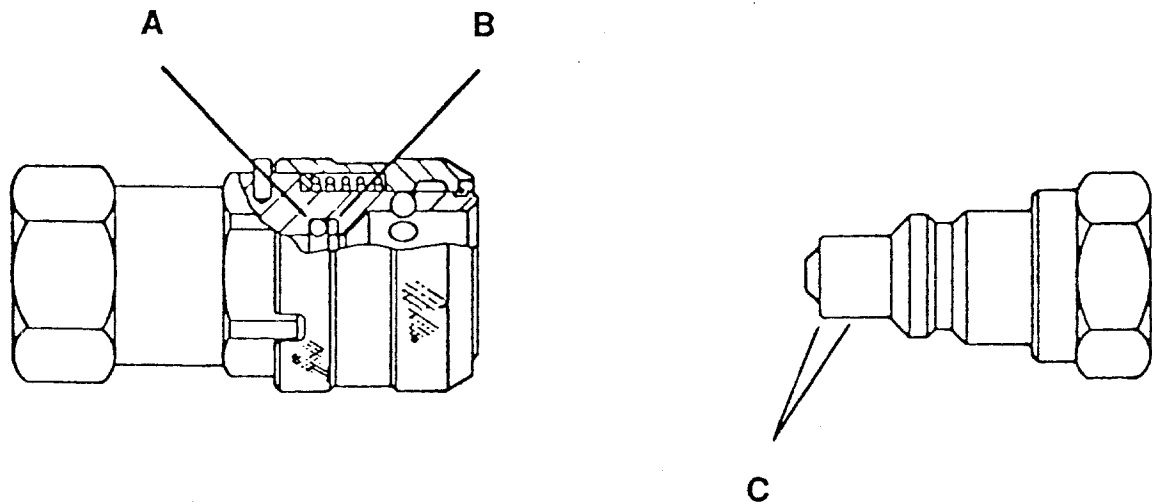

FIGURE 4 - HYDRAULIC COUPLER SET, 110440
- a. Damaged or worn O-ring in coupler body. See Figure 4.